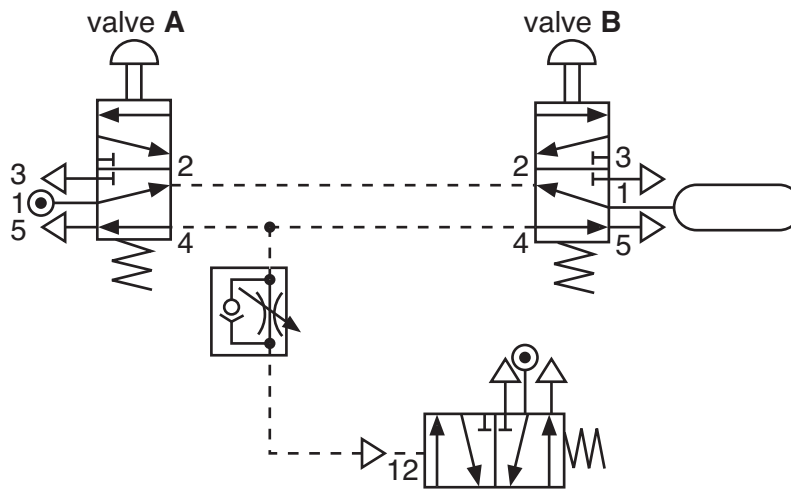

Fig. 11
- (d) To further improve safety the start circuit was altered as shown in Fig. 11.